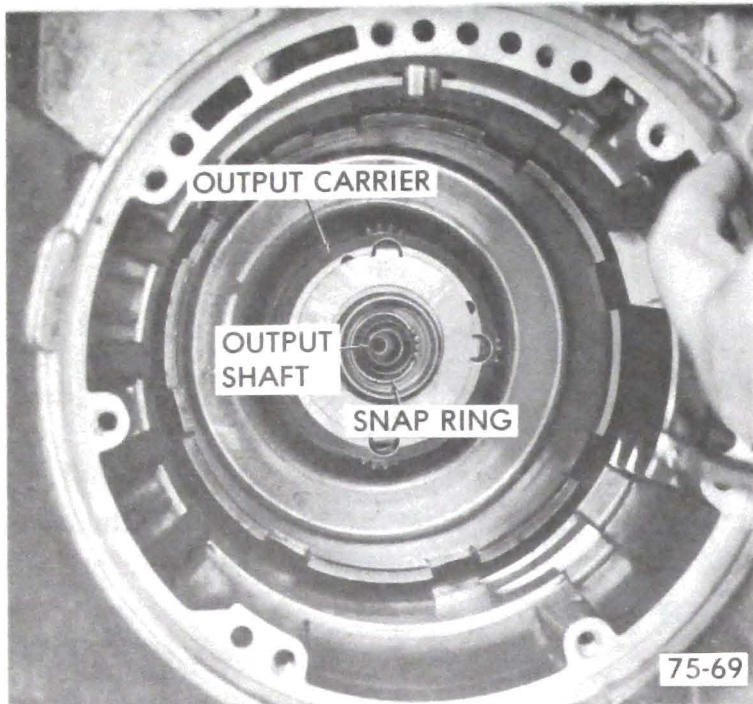

Figure 75-102
2. Remove output carrier to output shaft snap ring and discard. See Figure 75-102.